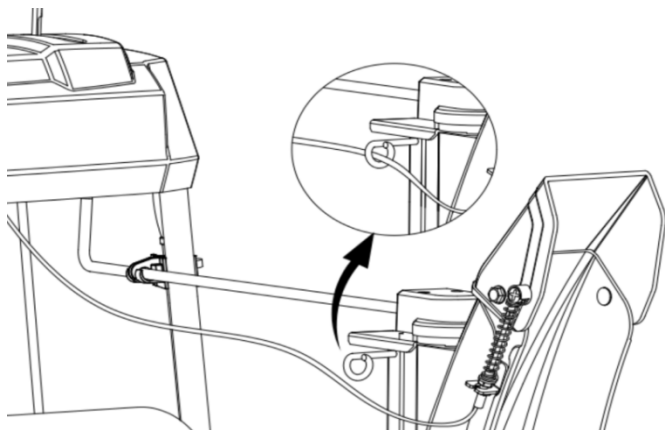

Figure 7
3. Verify that ALL cables are clear and not obstructing the Chute Handle operation of your snow thrower unit. Clip the cable into the hook. (See Figure 7)